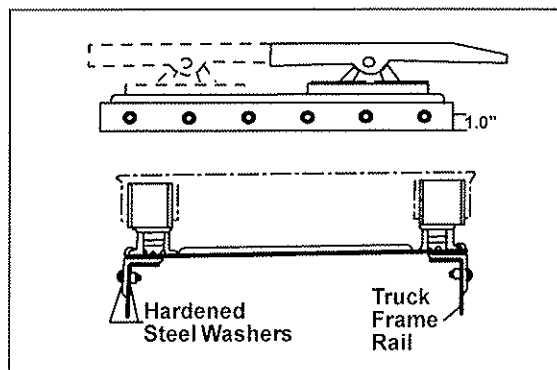

Fig. 9
1. The mounting angle should be at least one inch longer on each side of the base slide plate and have a minimum length of 36 inches. (See Fig. 9.)
3. The full length of the mounting angles must seat tightly on the vertical and horizontal surfaces of the tractor frame. (See Fig. 9.)